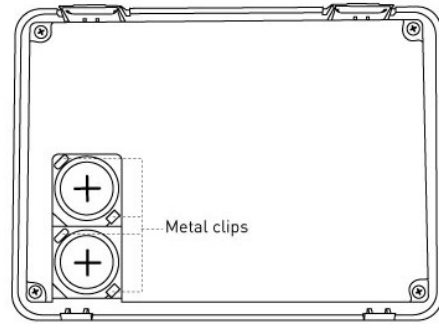

Figure 2
4. Reattach main keypad by inserting bottom portion first, folding upward and snapping into place (see *Figure 2*).
2. Place a small flathead screwdriver in the slot between the metal clip (see *Figure 2*) and the battery and twist the screwdriver slightly while holding back one of the black plastic edges holding the battery.
3. Insert the replacement battery with the + sign facing out. (see *Figure 2*)
WARNING! The polarity of the battery must be observed, as shown (see *Figure 2*). Improper handling of lithium batteries may result in heat generation, explosion or fire, which may lead to personal injuries. Replace only with the same or equivalent type of battery as recommended by the manufacturer. (see *Specifications*)